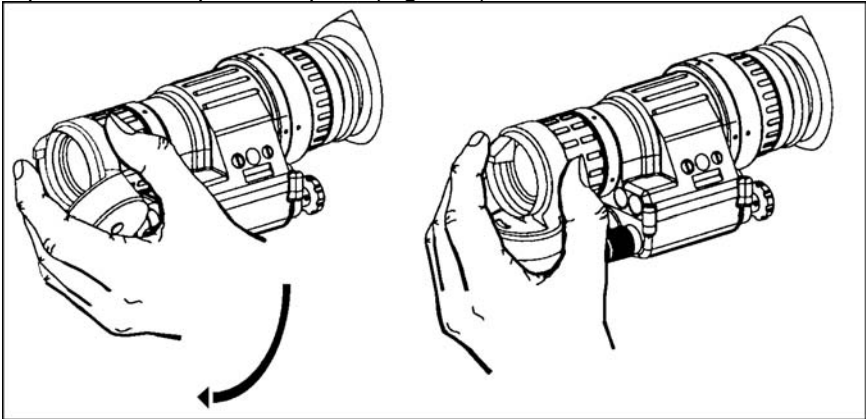

Figure 9. Installation of the snap-on compass.
- (1) Place the protective mask on your head IAW instructions provided with the protective mask.
- (2) Do not break the seal of the protective mask around your face when installing the headmount assembly over the protective mask.
7. Install and operate the snap-on compass (Figure 9).